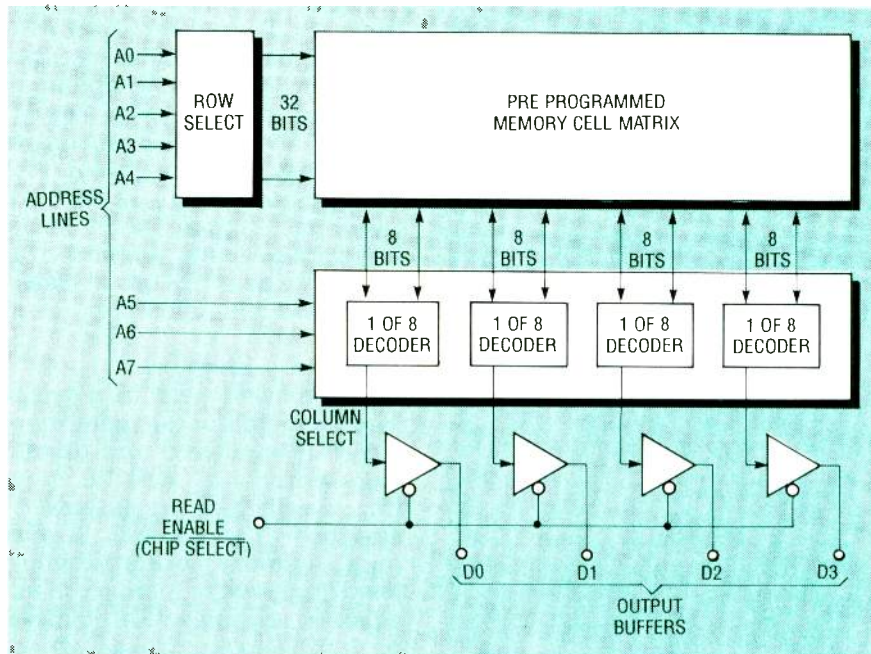

FIG. 6—A BASIC ROM consists of row- and column-select circuitry, the memory array, and three-state output buffers.
**FIG. 6—THIS TWO-DIGIT event counter totalizes 5-volt input pulses, with a duration of 15 nanoseconds or longer.** The advantage of this circuit is that it doesn't have to be continuously powered. If power is turned off, and then restored, the number of the last count will be displayed on the readout, similar to a mechanical counter.
The circuit shown in Fig. 6 is a two-digit event counter that totalizes 5-volt input pulses that have a duration of 15 nanoseconds or longer. The two 74LS90 IC's are binary-coded decimal (BCD) decade counters that are the heart of the circuit. Their outputs connect to the inputs of the 74CF374 ferroelectric chip. When pin 11 of the 74CF374 IC goes high, the count from the decade counters is transferred to the IC's output lines, which in turn are decoded by the two 74LS47 IC's for display. The two 74LS00 gates delay the pulse going to the 74CF374's clock pin so that the decade counter outputs have time to stabilize before they are sampled.
For example, Fig. 6 represents a simple ROM. The format of the ROM is 256 addresses with four bits per address. The memory array is a  $32 \times 32$  square, giving 256 addresses. And for 256 addresses the chip requires eight address lines ( $2^8 = 256$ ) to identify each location uniquely. The lower five address lines (A0–A4) select one of 32 possible rows ( $2^5 = 32$ ). The upper three (A5–A7) select one of eight columns ( $2^3 = 8$ ). There are four 1-of-8 decoders, so four columns (one from each group of eight) will be active for each selection.